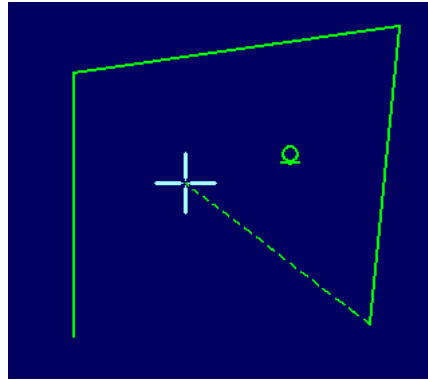

Figure 6.4.2
5. To move the line, when it is highlighted, press the left SK (correspondent to “Hook Line”); note that only the extremity of the selected side will be hooked and the other end of the segment will remain in its position. During the movement, the line is drawn with a different style (see figure 6.4.2).